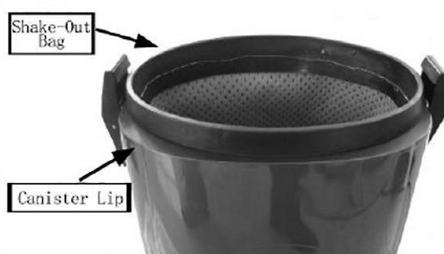

Fig. 4
1. Remove the Shake-out bag from the canister. (Fig. 4)